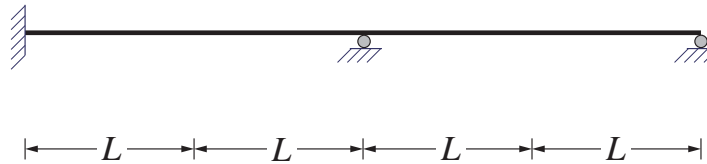

Figure 5: Bending moment distribution
2. Determine and draw the bending moment distribution under the given loading in Fig. 5.